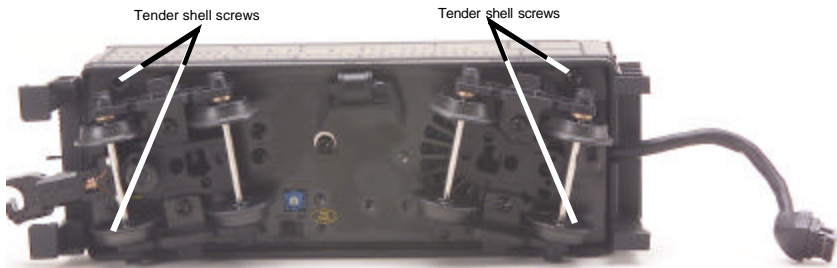

Figure 9. Screws to remove the tender shell
1. Remove the body from the chassis by removing the 6 screws shown in Fig. 9.